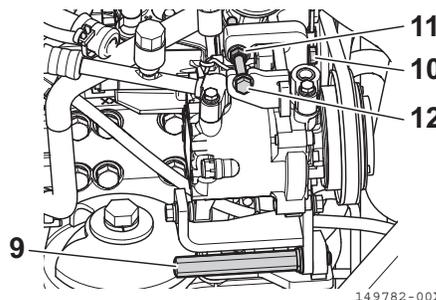

Fig. 8-56
- 1. Loosen the compressor mounting bolts (**Fig. 8-56, 9**) and (**Fig. 8-56, 10**).
- 2. Loosen the adjuster set nut (**Fig. 8-56, 11**).
- 3. Turning the adjuster bolt (**Fig. 8-56, 12**) clockwise tensions the belt, and turning it counterclockwise loosens the belt.
- 4. Adjust the belt to the adequate tension, and tighten the compressor mounting bolts (**Fig. 8-56, 9**) and (**Fig. 8-56, 10**).
- 5. Tighten the adjuster set nut (**Fig. 8-56, 11**).